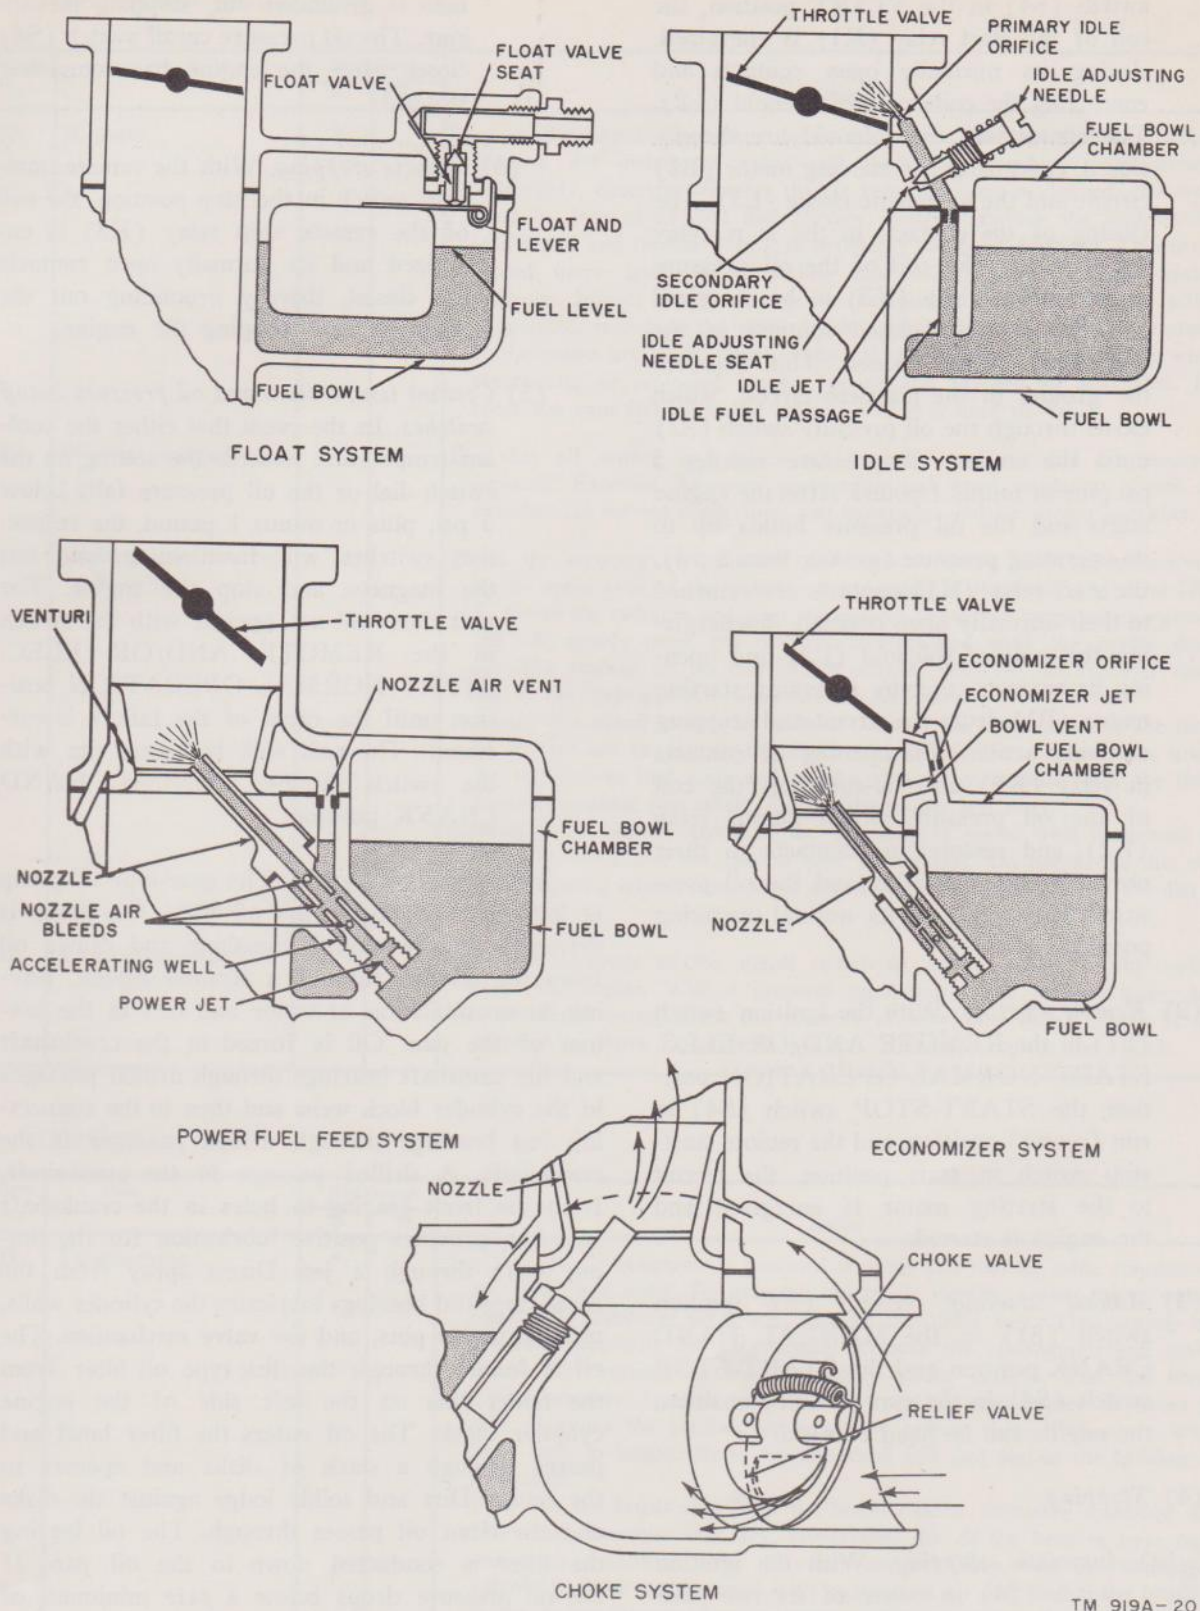

Figure 20. Carburetor flow diagram.
(1) *General.* The generator set operates on fuel pumped from an external supply tank through the auxiliary fuel line (fig. 7) and fuel filter (15, fig. 3) to the carburetor (fig. 20) by fuel pump (fig. 25).
(4) *Carburetor* (fig. 20). Fuel enters the carburetor bowl through the float-operated needle valve assembly; the level of fuel being governed by the float position. At idling speeds and light-load operation, fuel flows through the idle well jet and the low speed jet where it combines with air entering through the bypass. The fuel is broken up into a vapor, continues on through the economizer, and is combined with more air from the air bleed. The mixture is richer than required, but with air from the venturi, a suitable mixture is obtained. At rated full-load speeds, the velocity of air flowing through the carburetor venturi creates a reduced pressure at the tip of the main nozzle. The low pressure causes fuel to flow from the float chamber through the metering jet and out of the main nozzle into the carburetor venturi.